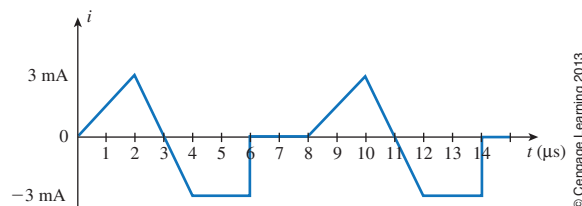

FIGURE 15–78
11. What is the peak-to-peak voltage for Figure 15–77? What is the peak-to-peak current of Figure 15–78?